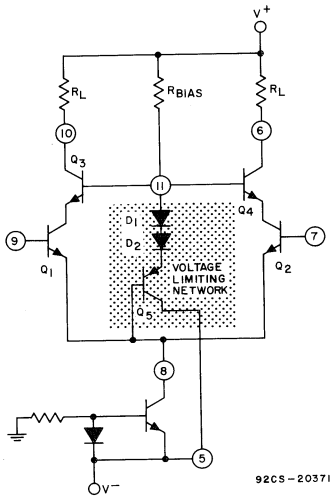

Fig. 27—Bias arrangement for operation of the super-beta differential cascode amplifier.
* SEE FIG. 27
An internal voltage-limiting network (diodes D1, D2 and p-n-p transistor Q5) incorporated in the differential cascode amplifier, assures that the applied collector-to-emitter voltage of each super-beta unit is maintained below two volts. Fig. 27 shows a typical bias arrangement of the super-beta differential cascode amplifier.